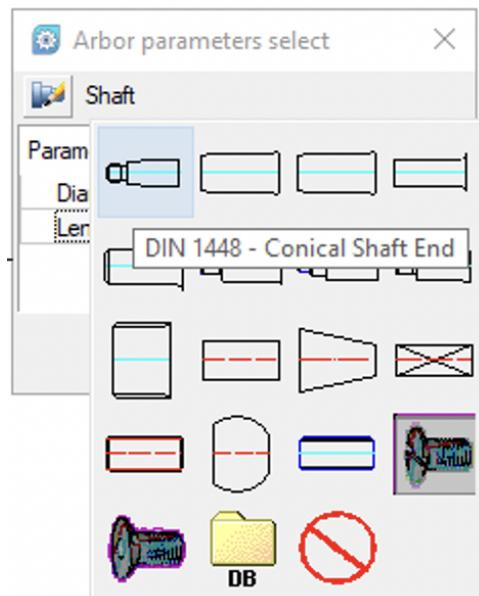

Fig. 5. Selecting a standard shaft end
1.5. Click **Shaft** in the **Arbor parameters select** dialog box. Select the **Conical shaft end DIN 1448** in the drop-down menu (Fig. 5).